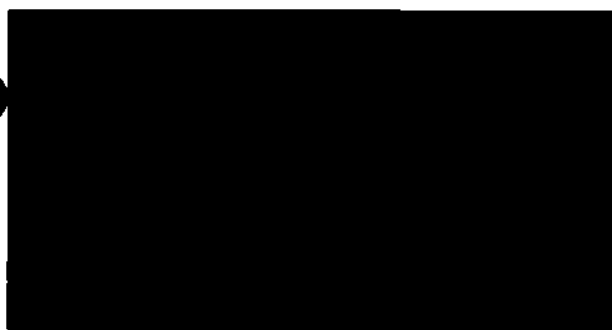

Figure 43. Set Default Startup Camera setup
2. Highlight the Set Default Startup Camera setup icon (Figure 43) and press the Select button to select it. A screen showing the available camera setup opens.